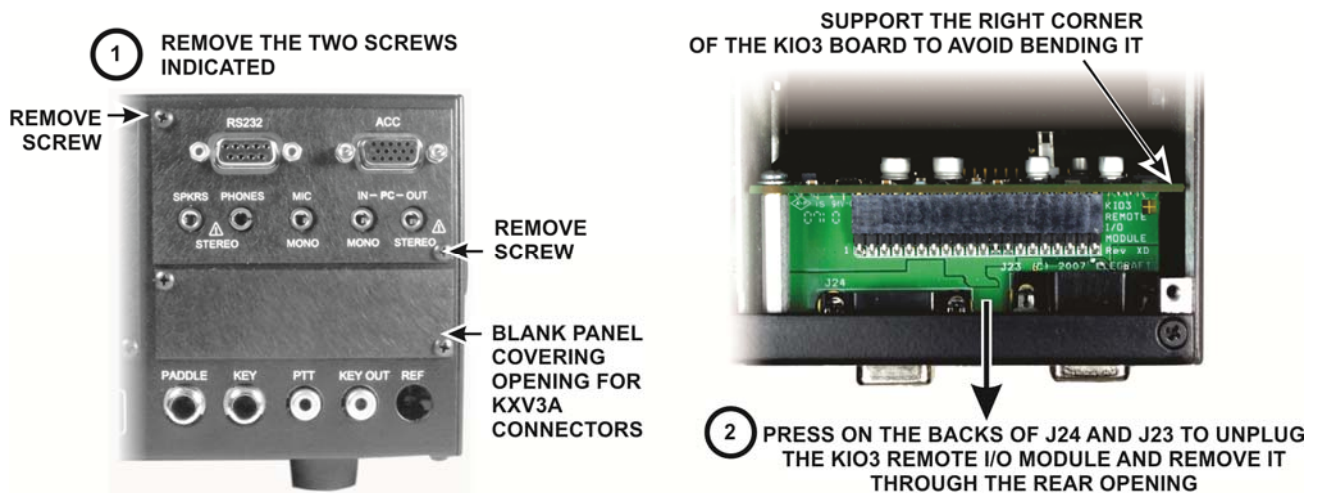

Figure 5. Removing the Digital I/O Module.
- Remove the Digital I/O module from the KIO3 Board at the rear of the K3 as shown in Figure 5.
- Remove the blank panel covering the space for the KXV3A module (see Figure 5). This panel will not be replaced.